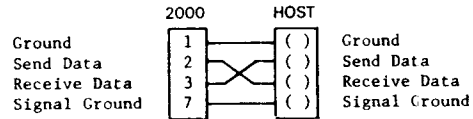

Figure 5-1. RS232C Half/Full Duplex Without Handshake
5.4 RS232C INTERFACE (See Figures 5-1 and 5-2)